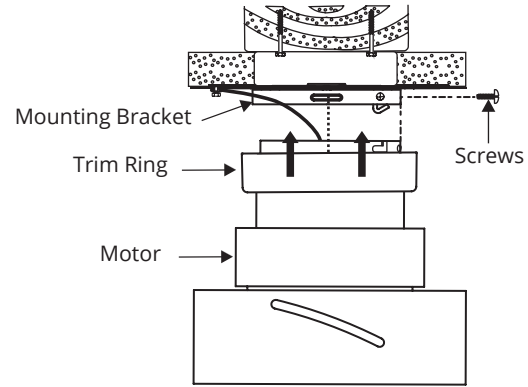

FIGURE 13
3. Remove the motor from the hook on the mounting bracket. Slide the motor up to the mounting bracket and place the key hole on the motor over the screw on the mounting bracket. Turn motor until it locks in place at the narrow section of the key holes. (Fig. 13)